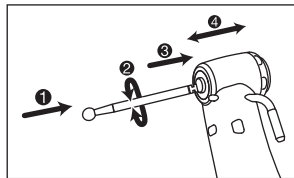

Fig. 1
- 1) Insert the bur/drill into the head.(Fig. 1 ❶)
- 2) Lightly turn the bur/drill until it engages with the latch mechanism. (Fig. 1 ❷)
- 3) Push bur/drill inward to click then it locks. (Fig. 1 ❸)
- After the bur/drill is locked in place, lightly pull out the bur/drill to make sure the bur/drill is locked. (Fig. 1 ❹)